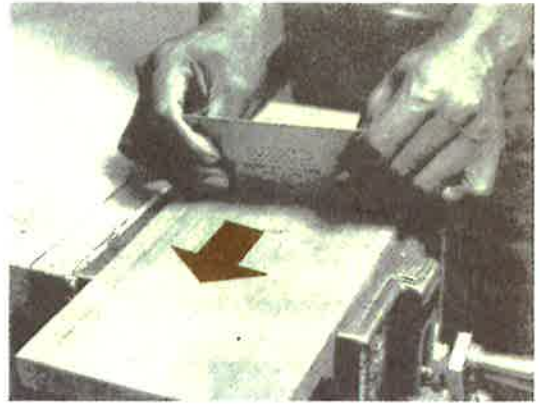

Fig. 17-1. Scraping a surface with a hand scraper.
1. Grasp the scraper blade firmly between the thumb and fingers (Fig. 17-1). Spring it to a slight curve. Hold the blade at an angle of approximately 45 degrees (Fig. 17-2).